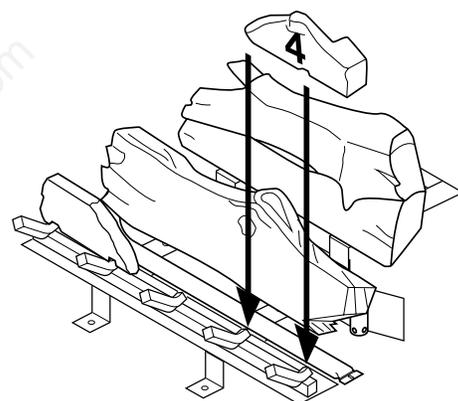

Figure 51 - Installing Log No. 4
4. Place log #4 (right log) onto the front left part of the grate making sure the notches fits over the prong of the grate (see Figure 51).